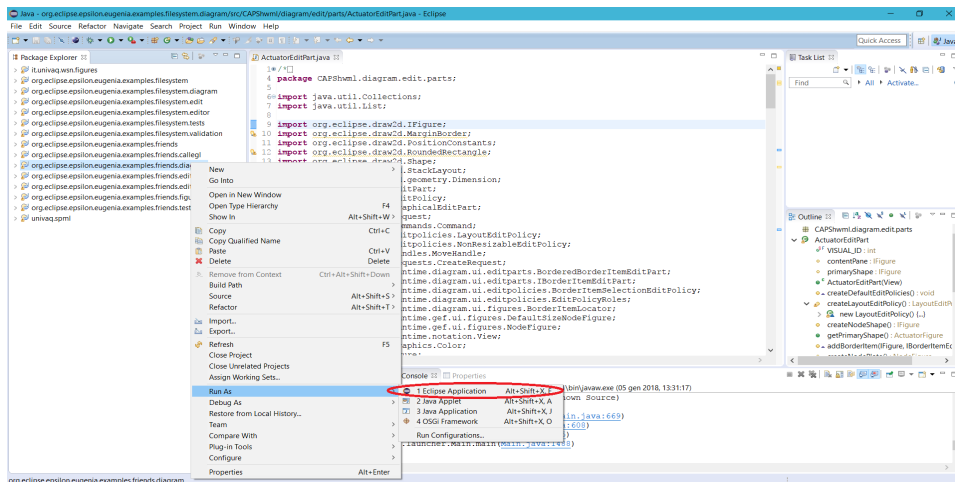

Figure 1.3: The option you have to select
- In the appearing menu, go on **Run as** and then **Eclipse Application** (figure 1.3);